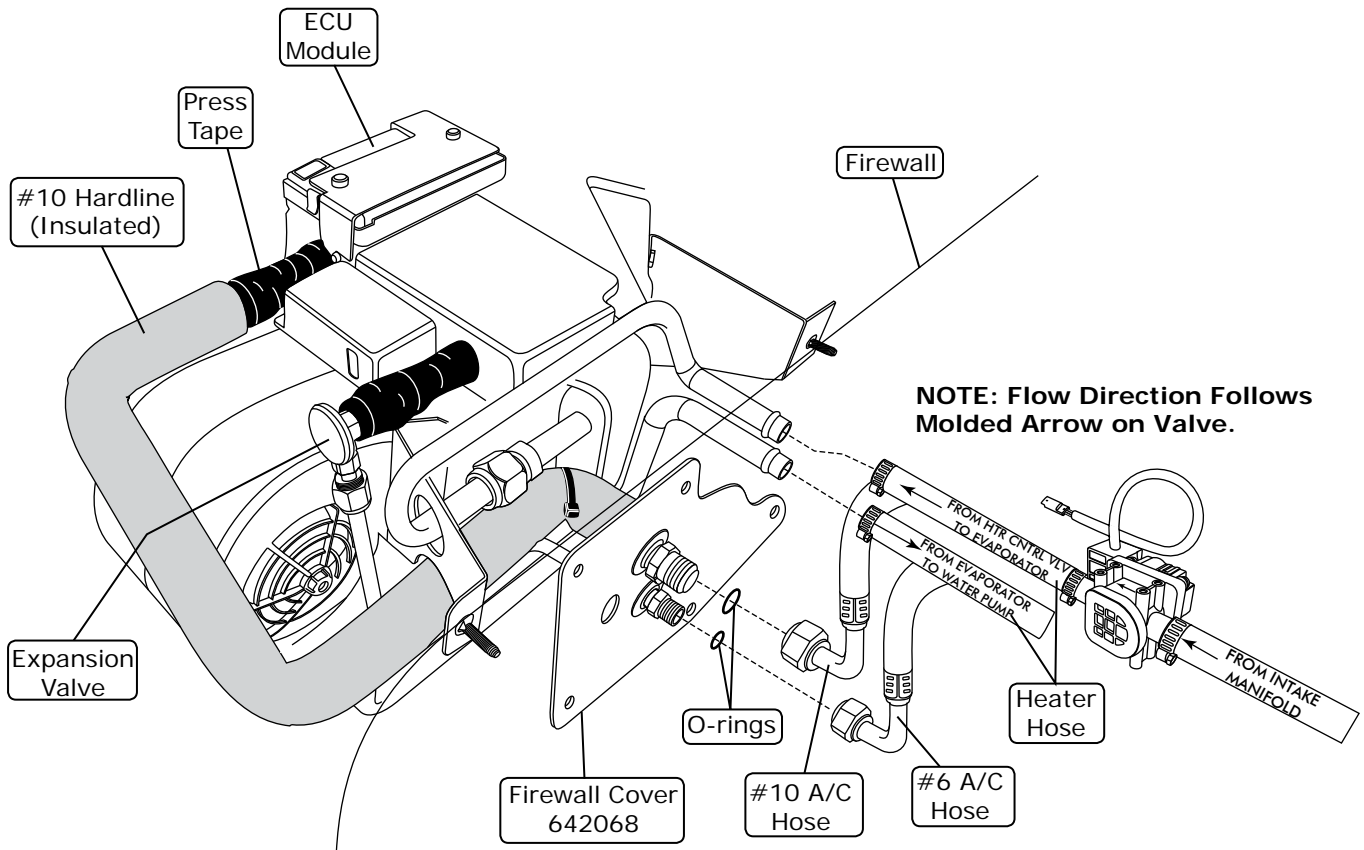
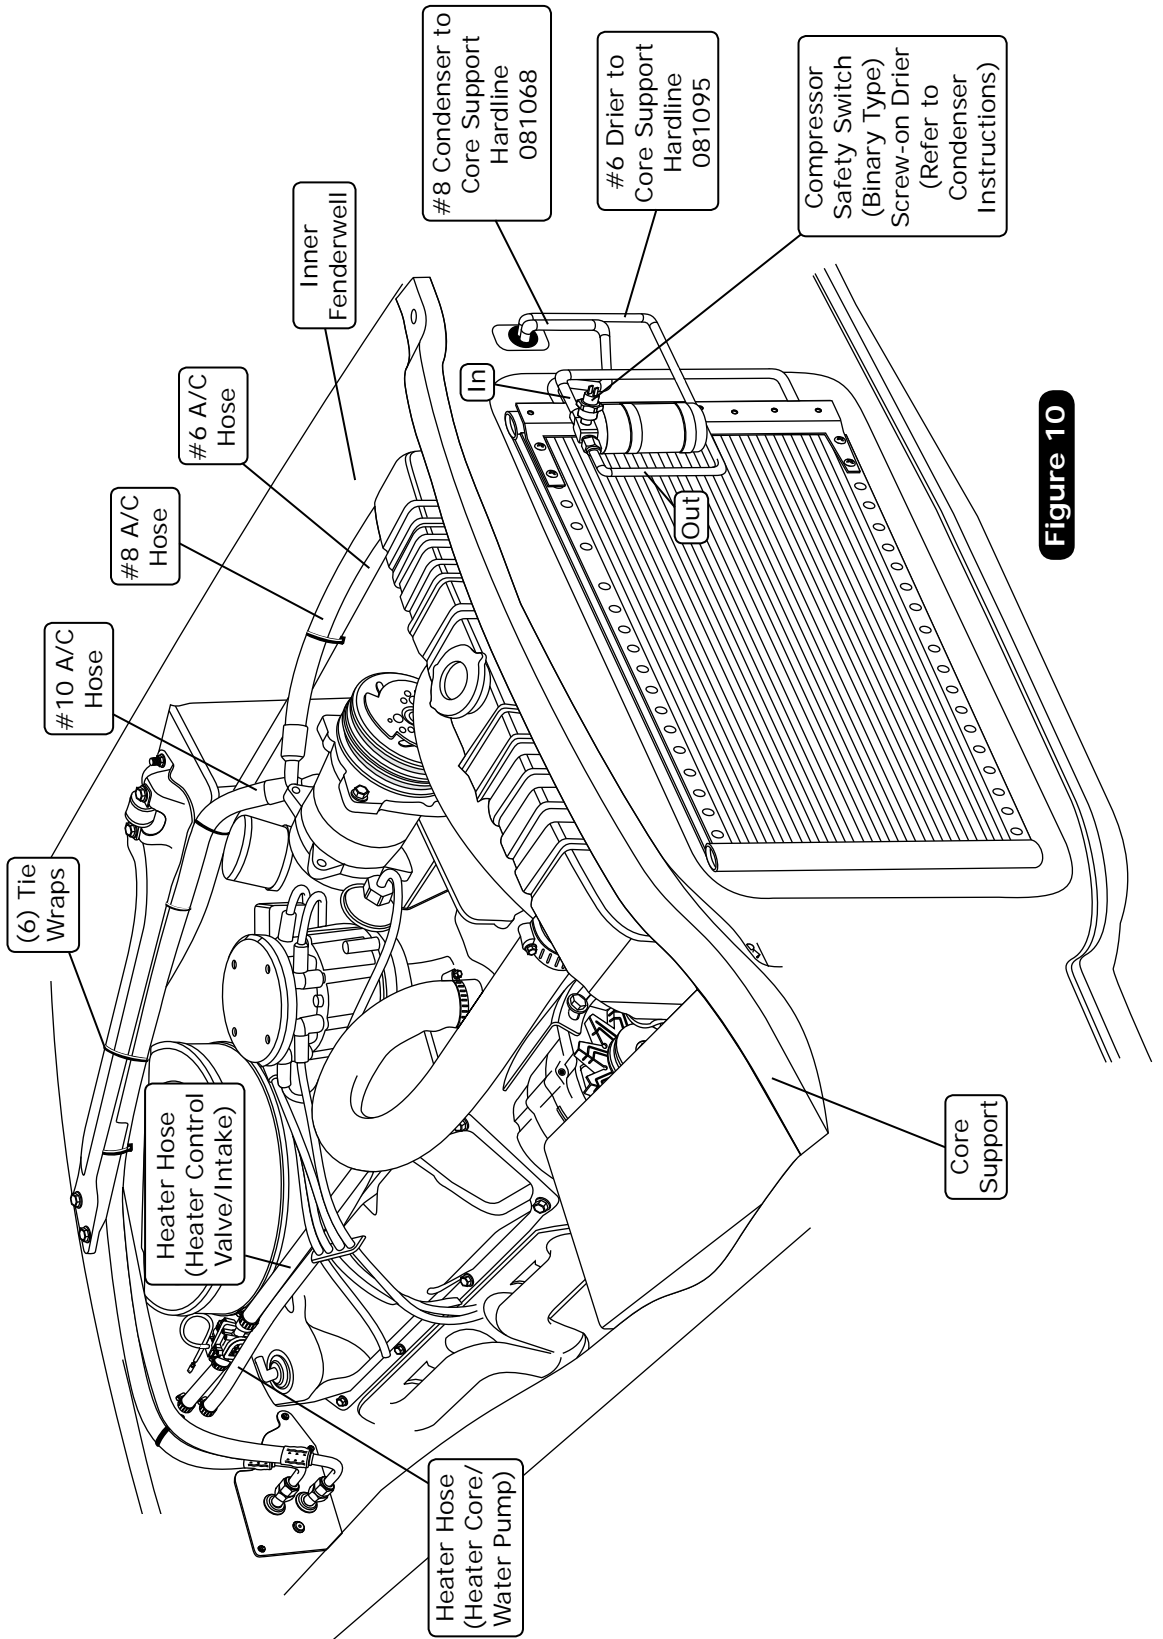

Figure 9
Figure 10
1. Locate the #8 compressor A/C hose. Lubricate (2) #8 O-rings (See Figure 8, above) and connect the 45° fitting to the #8 discharge port on the compressor. Then route the straight female fitting with service port to the #8 condenser hardline coming through the radiator core support (See Figure 10, Page 14). Tighten each fitting connection as shown in Figure 8, above.
2. Locate the #10 compressor A/C hose. Lubricate (2) #10 O-rings (See Figure 8, above) and connect the 90° female fitting with service port to the #10 suction port on the compressor. Then route the 90° female fitting to the #10 evaporator hardline coming through the firewall (See Figure 9, Page 13, & Figure 10, Page 14). Tighten each fitting connection as shown in Figure 8, above. Wrap the #10 fitting connections with press tape (See Figure 9, Page 13).
3. Locate the #6 evaporator/drier hose. Lubricate (2) #6 O-rings (See Figure 8, above) and connect the straight female fitting to the #6 drier hardline coming through the radiator core support. Then route the 90° female fitting to the #6 evaporator hardline coming through the firewall (See Figure 9, Page 13). Tighten each fitting connection as shown in Figure 8, above.
4. Use (6) tie wraps to secure the #6 A/C hose to the brace as shown in Figure 10, Page 14.
1. Route a piece of heater hose from the water pump to the lower heater line coming through the firewall as shown in Figure 9, below. Secure using hose clamps.
2. Route a piece of heater hose from the intake to the upper heater line coming through the firewall as shown in Figure 9, below. **NOTE: Install the heater control valve in line with the intake manifold (pressure side) heater hose, and secure using hose clamps. Also note proper flow direction.**